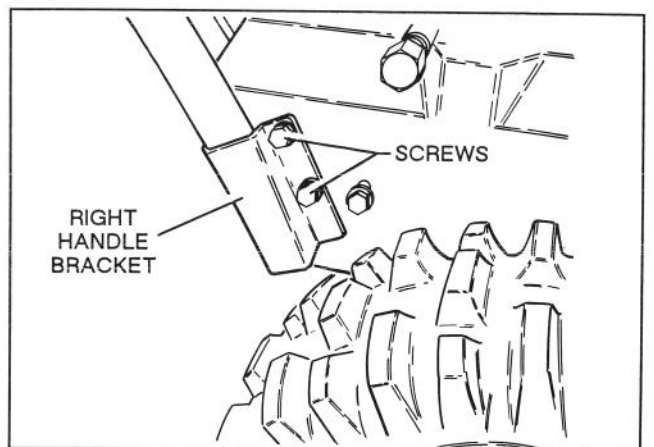

Figure 9
16. Remove and discard two flange head screws securing front of right handle bracket to engine frame (Fig.9).